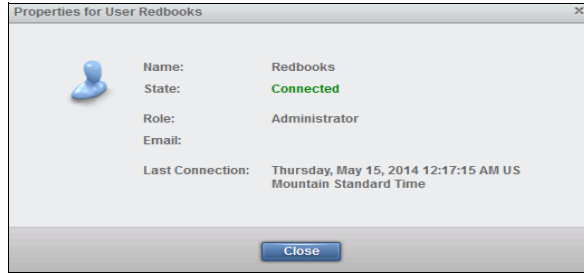

Figure 4-56 User properties
- **Properties:** This option displays the properties of the user, the state of the user, and the user’s last connection, as shown in Figure 4-56.